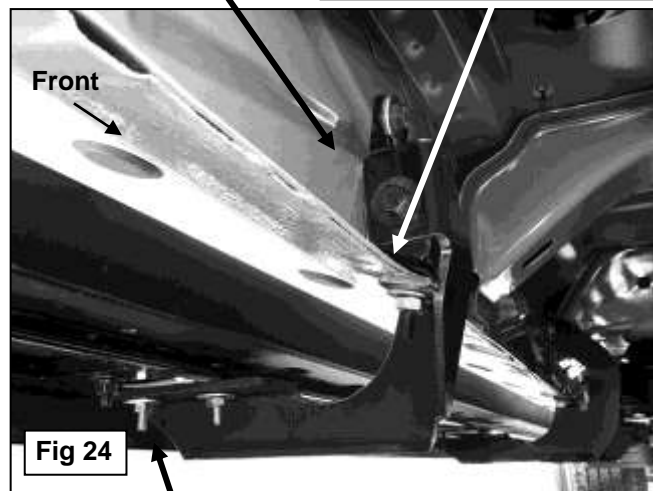

Fig 24
11. Line up the side tab on the Lower Bracket with the threaded hole in the side of the Upper Bracket. Attach the Lower Bracket to the Upper Bracket with (1) 8mm x 25mm Hex Bolt, (1) 8mm Lock Washer and (1) 8mm Flat Washer, **(Figure 24)**. Leave loose at this time.
12. Repeat **Steps 1—3** for the (2) remaining passenger side Bracket installations. **NOTE:** Cradles on Brackets installed on passenger side will face forward.